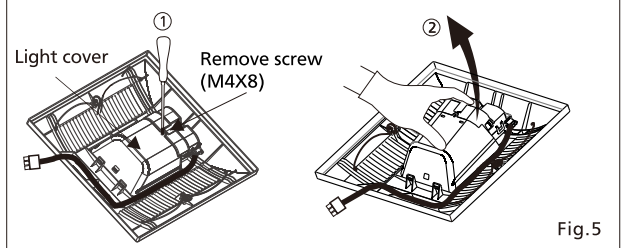

Fig.5
8. Remove the screw as shown in step ① of Fig.5. Remove the light cover as shown in step ② of Fig.5.